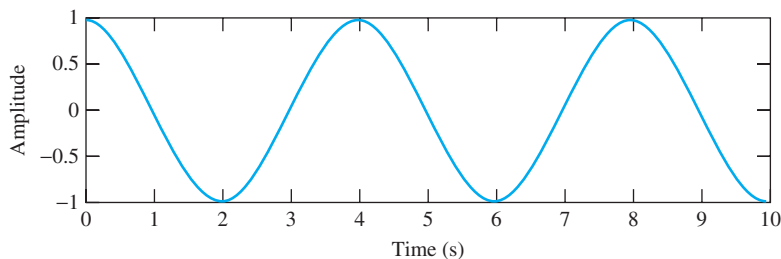
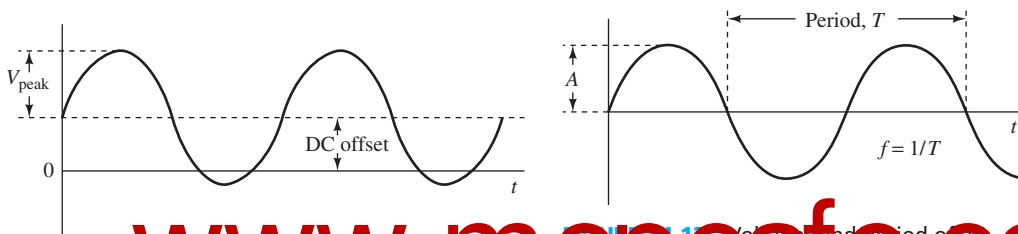

FIGURE 14.10 A sinusoid with $B = 0$.
FIGURE 14.11 DC offset of a sinusoid ($B > 0$). (b) Amplitude and period of a sinusoid.
- B = DC offset; if $B = 0$, then the sinusoid will be balanced with respect to the x -axis (see Figure 14.10), if $B > 0$, the sinusoid will be shifted upward (see Figure 14.11).
The parameters introduced in Equation (14.15) are illustrated in Figures 14.10 to 14.12. Typically, in the sinusoid of Figure 14.10, the amplitude of the sinusoid is 1, the period is 4 s; thus, the frequency is 0.25 Hz, the phase is zero, and the DC offset is zero. In Figure 14.11, V_{peak} is the amplitude, the phase is 0° , and there is a nonzero DC offset.